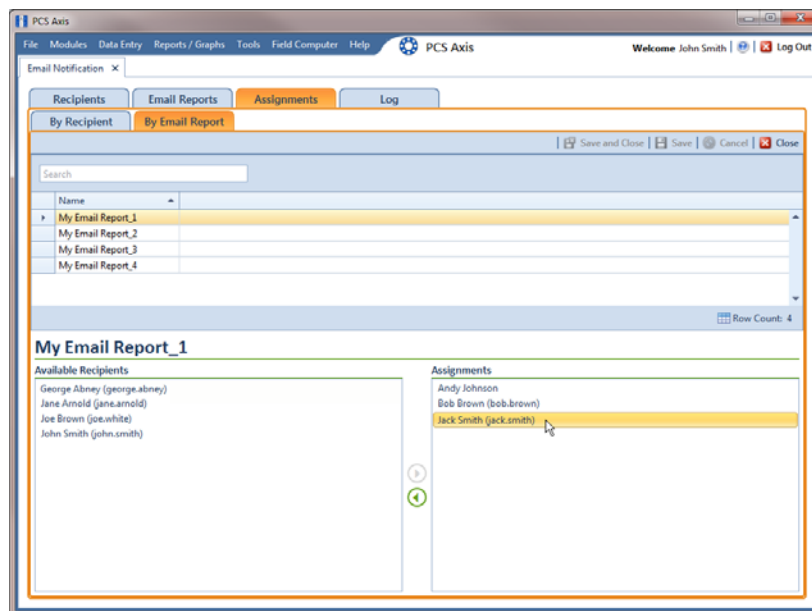

Figure 11-18. Email Notification Assignments By Email Report
- 2) Double-click a recipient name in the *Assignments* pane to move it to the *Available Recipients* pane. Then click **Save**. The email report is sent only to those recipients listed in the *Assignments* pane (Figure 11-18).